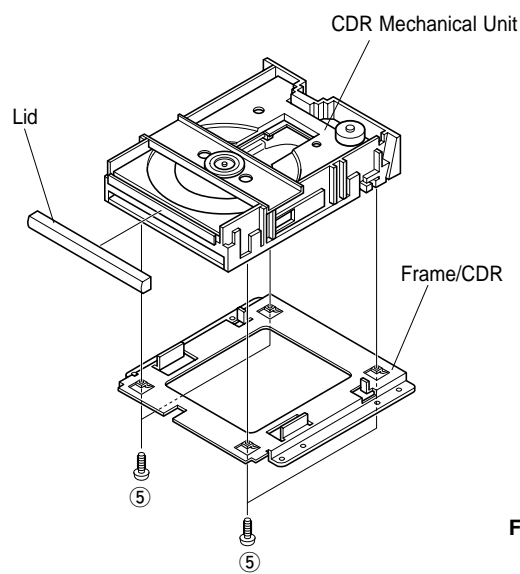

Fig. 3
g. Remove 4 screws marked ⑤, and the Frame/CDR can be removed. (Fig. 3)